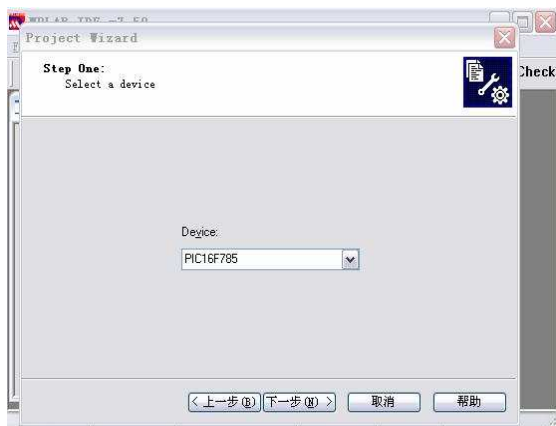

Figure 2-5 Choose chip model
Step 2, directly click "Next", and select chip model, as shown in Figure 2-5.